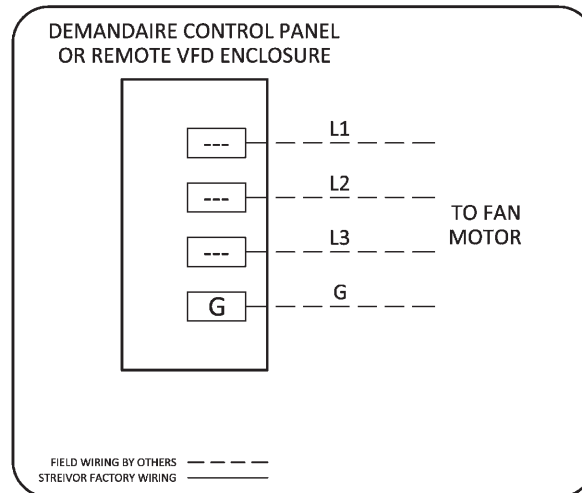

FIGURE 4: VFD Output Power Wiring
- The output terminals located on the VFD(s) have been pre-wired to the designated output power terminal blocks in the DemandAire Control Panel or Remote VFD Enclosure (if applicable). Connect the output power terminal blocks to the designated fan motor(s) as shown on the DCP Drawings (*Figure 4*).